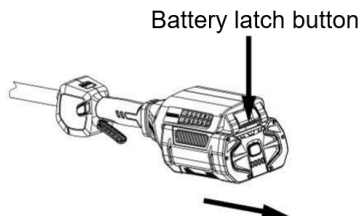

Fig. 8
1. Press and hold the battery latch button at the bottom of the battery pack. (Fig.8)